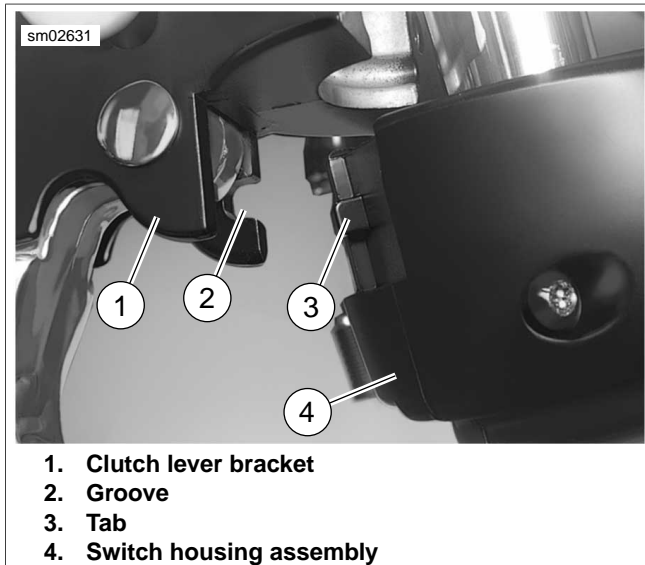

Figure 7-96. Clutch Lever Bracket
5. See Figure 7-96. Position the clutch hand lever assembly inboard of the switch housing assembly, engaging the tab (3) on the lower switch housing in the groove (2) at the bottom of the clutch lever bracket.